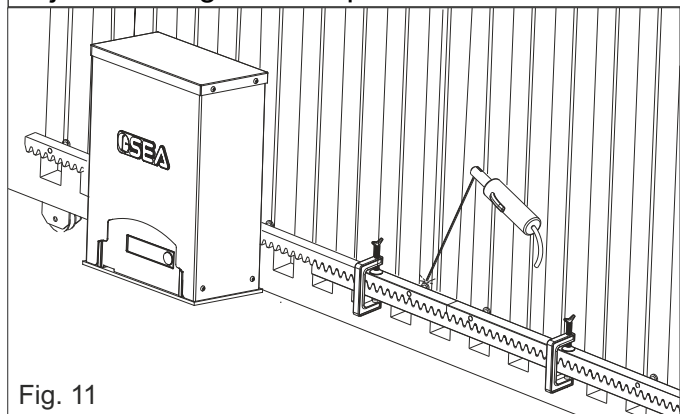

Fig. 11
5.4. Make sure that all the gear rack elements are perfectly aligned and correctly placed (teeth must be in phase). It's suggested to oppose an element to two aligned elements as shown in Fig. 11;